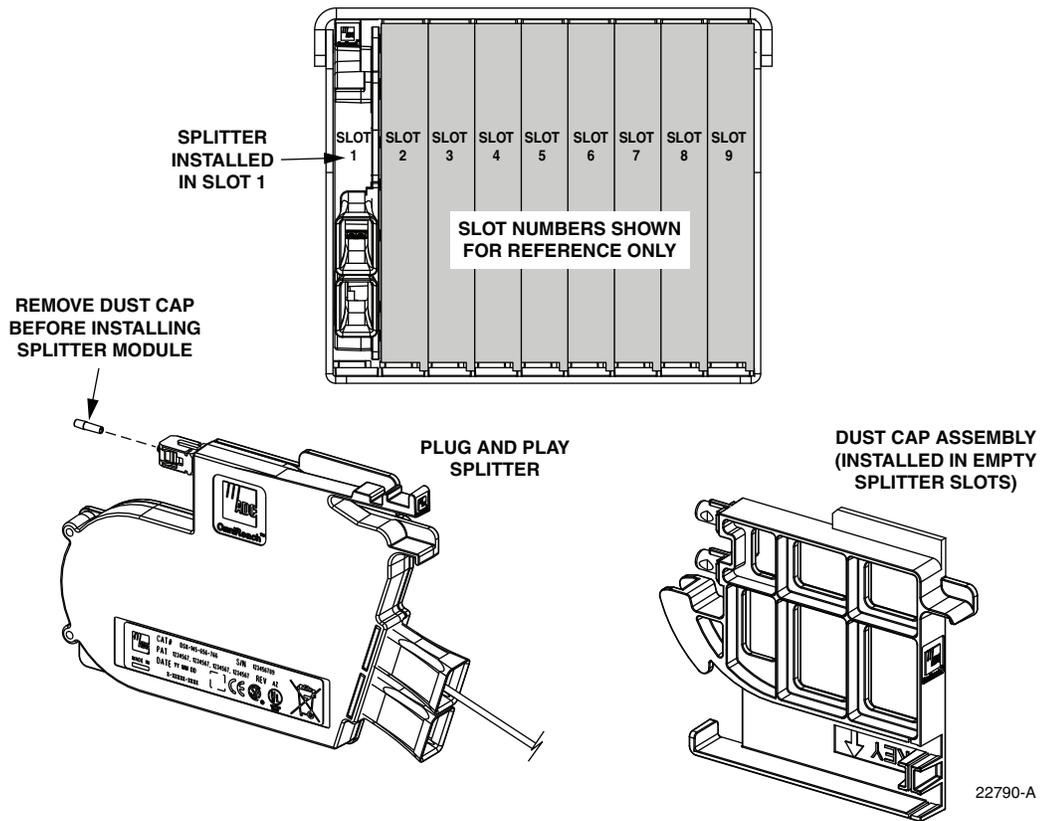

Figure 10. Splitter Module Mounting Slots
1. Locate the next available splitter mounting position as shown in Figure 10.
6. Remove the dust cap from the splitter connector (see Figure 10).